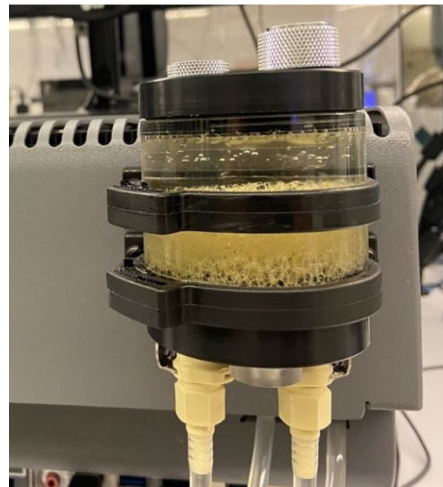
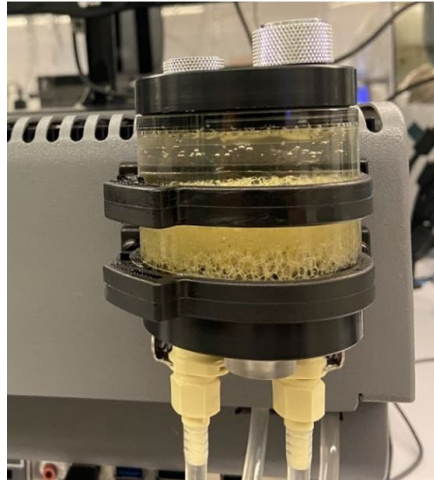

Figure 17: Reservoir Connections at Time of Shipment
Figure 20: Reservoir Connected and Ready to Run
4. Disconnect the quick connect fittings shown in Figure 17. To release the quick connect fittings, push down on the metal tab of one fitting and pull the fittings apart. Attach each fitting to the bottom of the reservoir as shown in Figure 20.